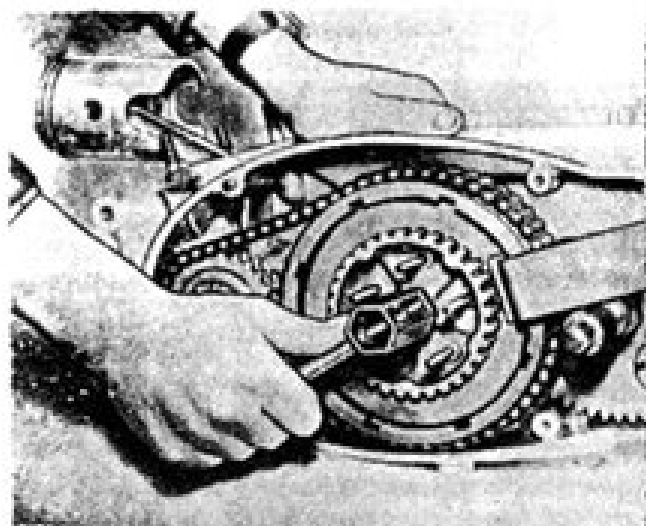

Fig. 9. Removal of clutch inner drum.
5. Lock the drum with special spanner from Set No. 2 (Fig. 9) and unscrew a fastening nut of the clutch inner (driven) drum (left-hand thread).